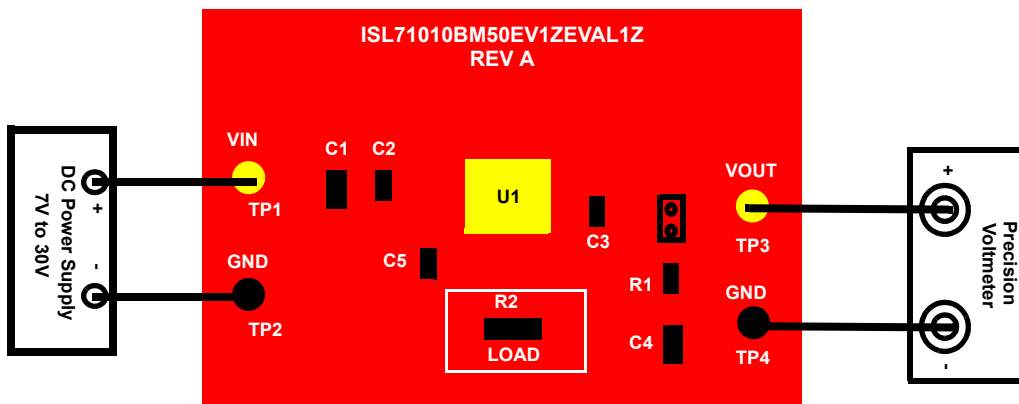

Figure 2. Basic Evaluation Test Setup Block Diagram (Measure V_{OUT} of the Voltage Reference)
- (1) Gather the external supply and equipment needed to operate the board:
- (2) Attach the evaluation board to a DC power supply at test points TP1 and TP2 labeled VIN and GND as shown in Figure 2. Attach the positive terminal at VIN (TP1) and the negative terminal at GND. The supply should be capable of delivering 7V to 30V and 100mA of current.
- (3) Connect a precision voltmeter at test points TP3 and TP4 labeled VOUT and GND as indicated in Figure 2.
- (4) Set the supply voltage to 10V.
- (5) Turn the DC power supply ON. The voltmeter should read $5.0V \pm 0.05\%$.
- (6) Change the DC power supply voltage to 20V. The voltmeter should continue to read 5.0V.
- (7) Vary the DC power supply voltage over the range of 7V to 30V and the voltmeter should continue to read 5.0V.
- (8) Performance at different resistive loads can be evaluated by changing R₂ with different resistor values.